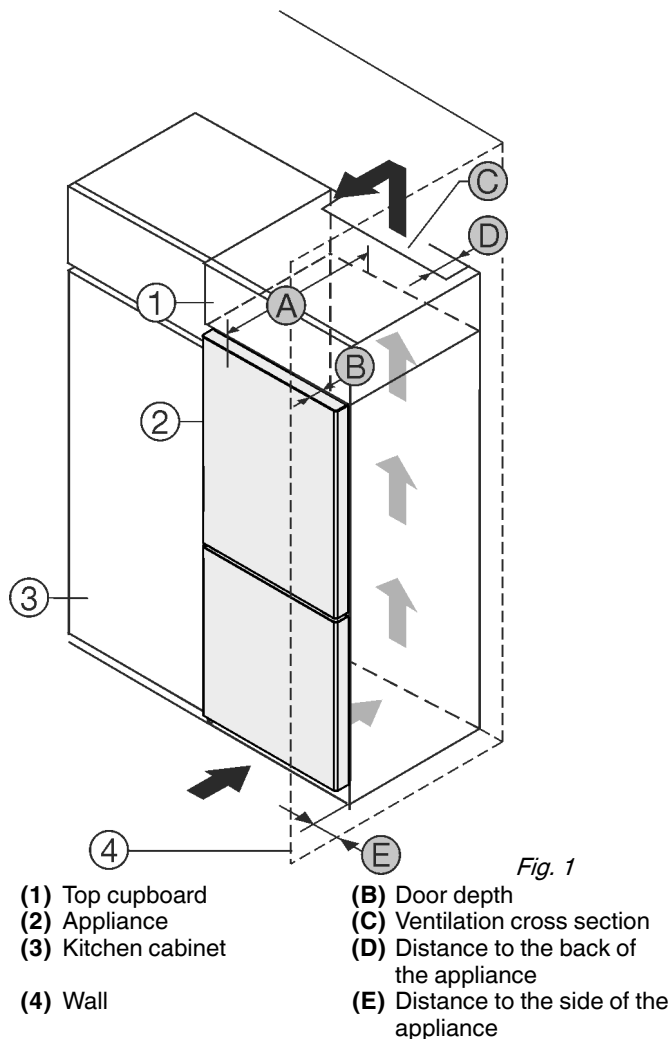

Fig. 1
Set up the appliance directly next to the kitchen cabinet Fig. 1 (3).\*
At the back of the top cabinet, there must be an air outlet shaft with the depth Fig. 1 (D), spanning the entire width of the cabinet.
The ventilation cross-section Fig. 1 (C) must be maintained under the ceiling.
If the appliance is set up with the hinges next to a wall Fig. 1 (4), the distance between the appliance and the wall must be at least 13 mm.
If the appliance is set up with the hinges next to a wall Fig. 1 (4), the distance between the appliance and the wall must be at least 20 mm.
The appliance must protrude by the depth of the door Fig. 1 (B) from the front of the cabinet so that the doors can be opened fully. The appliance may protrude further depending on the depth of the kitchen cabinets Fig. 1 (3) and whether wall spacers are used.\*